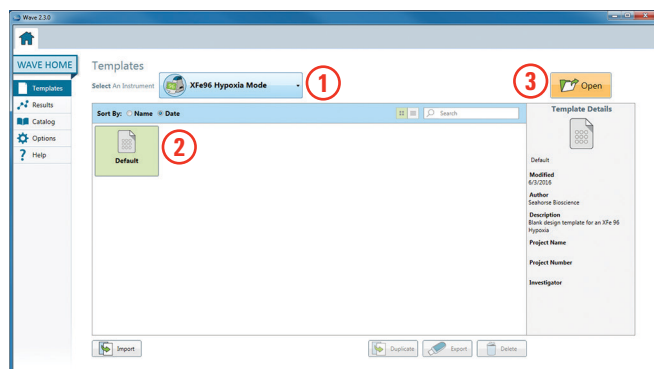

Figure 4. Assay template view in Wave Desktop Hypoxia Mode.
- First use the drop-down to select Hypoxia Mode (1). Select the **Default** assay template (2), then click **Open** (3) (Figure 4).